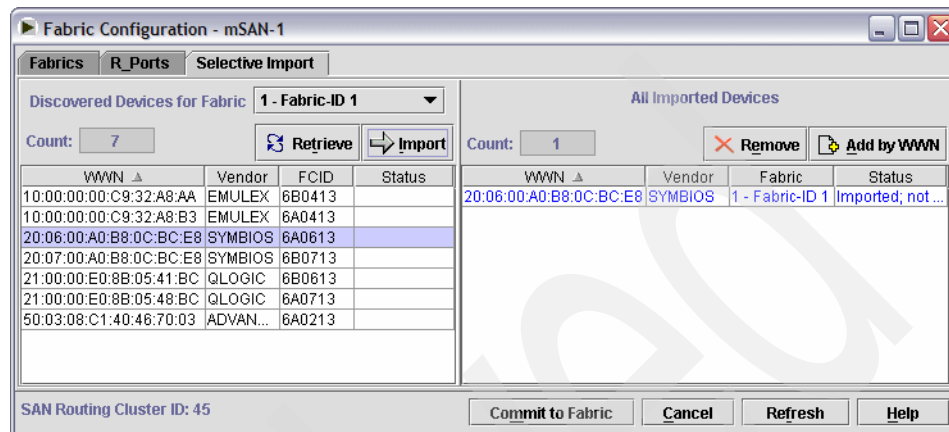

Figure 17-55 Selectively importing a device
6. Highlight the device you want and click **Import** (the window should now look similar to Figure 17-55).